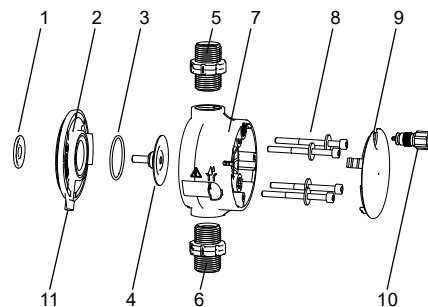

Fig. 23 Dosing head, exploded view
<p>Check, if liquid leaks from the drain opening (fig. 23, pos. 11) and if the drain opening is blocked or soiled. If so, follow the instructions given in section 7.6 Diaphragm breakage.</p>
If the diaphragm leaks or is broken, dosing liquid escapes from the drain opening (fig. 23, pos. 11) on the dosing head.
In case of diaphragm breakage, the safety diaphragm (fig. 23, pos. 1) protects the pump housing against ingress of dosing liquid.
When dosing crystallising liquids the drain opening can be blocked by crystallisation. If the pump is not taken out of operation immediately, a pressure can build up between the diaphragm (fig. 23, pos. 4) and the safety diaphragm in the flange (fig. 23, pos. 2). The pressure can press dosing liquid through the safety diaphragm into the pump housing.
This section refers to fig. 23.